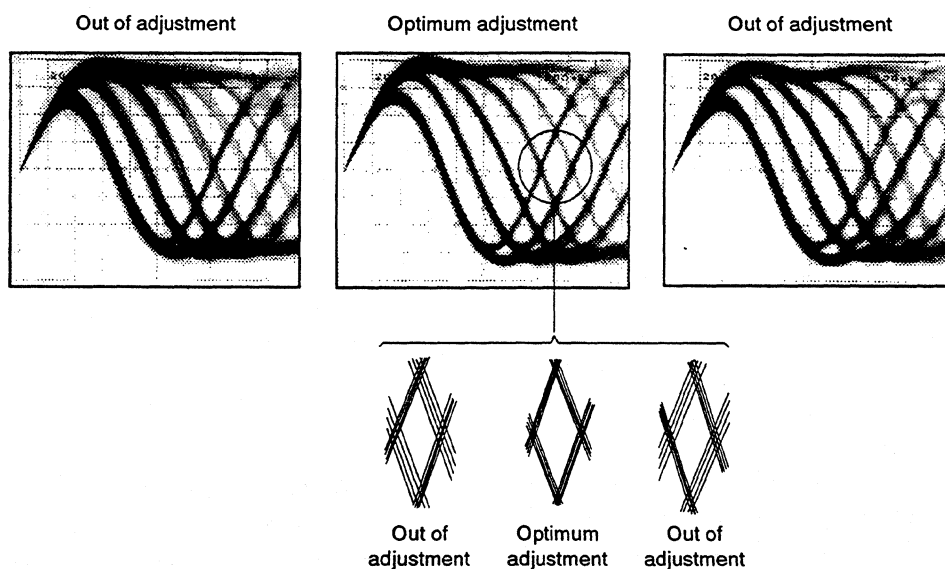

Figure 3 Eye pattern
3. Next, adjust the tangential tilt adjustment screw with a ball-point type hexagonal wrench so that the eye pattern (the diamond shape at the center of the RF signal) can be seen the most clearly (Figure 3).